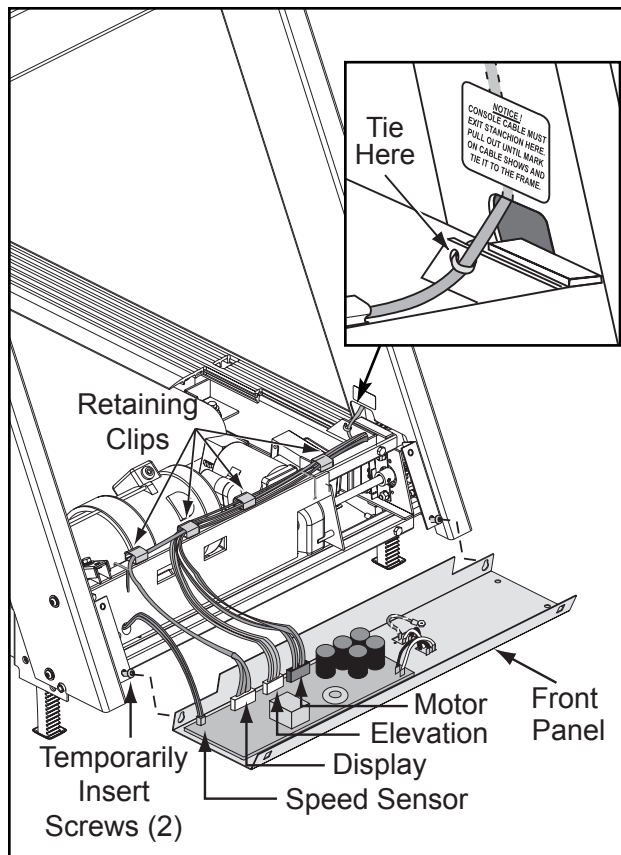

Figure 7
- A.** Note that there are four threaded holes on the treadmill's front frame used to fasten the front end panel to the treadmill base. Temporarily insert button head screws in the two bottom threaded screw holes. Screw the screws in approximately halfway. See Figure 7.
- B.** Pick up the front panel and hold it parallel to the floor, with the printed circuit board facing up. Temporarily mount the panel by placing it over the two button head screws on the treadmill's front end as referenced in the previous step. Use the screws to support the panel much like a shelf. See Figure 7.
- C.** Ensure the black mark on the display cable is visible, and wire tie it to the frame as it exits the upright. See Figure 7.
- D.** Pinch the retaining clips (to open them) and route the display cable through each of them across the top of the treadmill. See Figure 7. Close the retaining clips.
- E.** Plug all cables into the lower board: (from left to right) the motor/choke connector, the elevation connector, the display cable connector and the speed sensor connector. See Figure 7.
- A.** Remove the front panel (with the cable connectors still attached) off the two button head screws. See Figure 7.